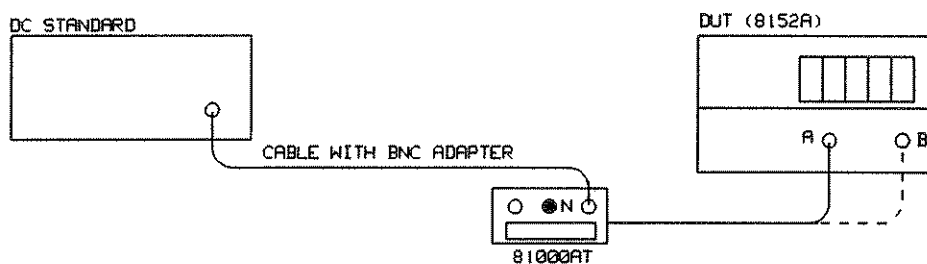

Figure 4-2
4. Set the DC Standard to +0.000 Volt and connect the equipment as shown in Figure 4-2.